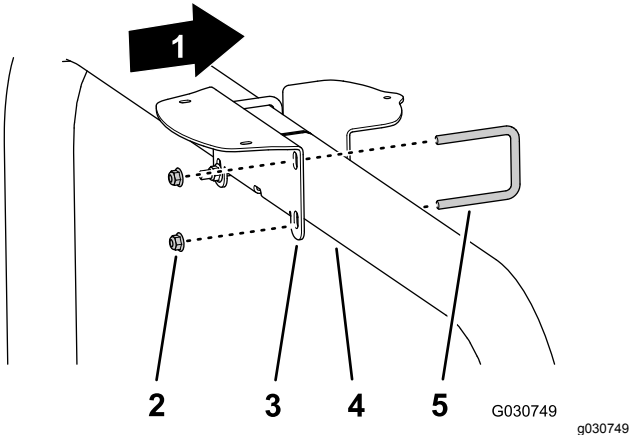

Figure 124
- If your machine is configured with global navigation satellite system (GNSS) with wide area augmentation system (WAAS), assemble the receiver mount to the ROPS tube (Figure 124) with the 2 U-bolts and 4 flange locknuts (3/8 inch).